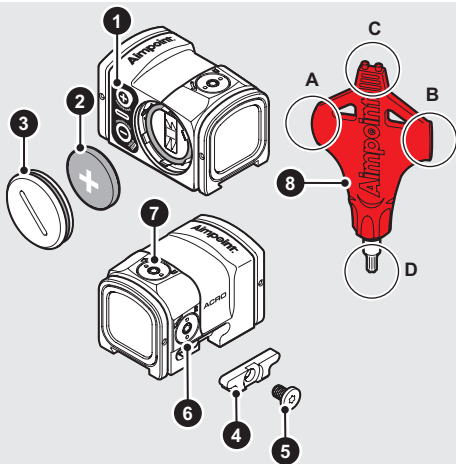

Fig. 1 Overview
- c Insert battery (2) with the positive end (+) toward the battery cap (3) as seen in Fig. 1.
To install the sight to an interface compatible with the integrated mount shown in Fig. 1, follow the described procedure: